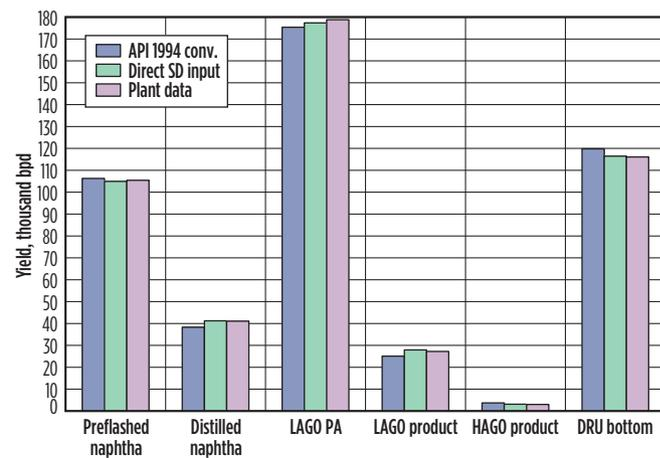

FIG. 3. The product yield distribution of a DRU.
FIG. 3 illustrates the product yields and pumparound (PA) rate of the DRU unit as compared with the two simulations using different assay entry methods. As shown in **FIG. 3**, the method for inputting simulated distillation assay data into simulators has a substantial influence on the product distribution. The difference in product yields due to assay entry methods range from 1,000 bpd (pre-flashed naphtha) to about 4,000 bpd (DRU bottom). The total performance of DSDI defined simulation is superior to that of simulation using API 1994 conversions. The simulation performance with DSDI not only predicted good matches on individual product yields, but also predicted a closer light atmospheric GO (LAGO) PA rate to plant data as compared to the predictions from the simulation using API 1994 conversions. The averaged relative deviation (ARD) of DSDI defined simulation, defined as $(\text{predicted yield} - \text{plant yield}) / \text{plant yield}$, is less than $\pm 2\%$. The ARD of the simulation using API 1994 conversions is about $\pm 8.3\%$.